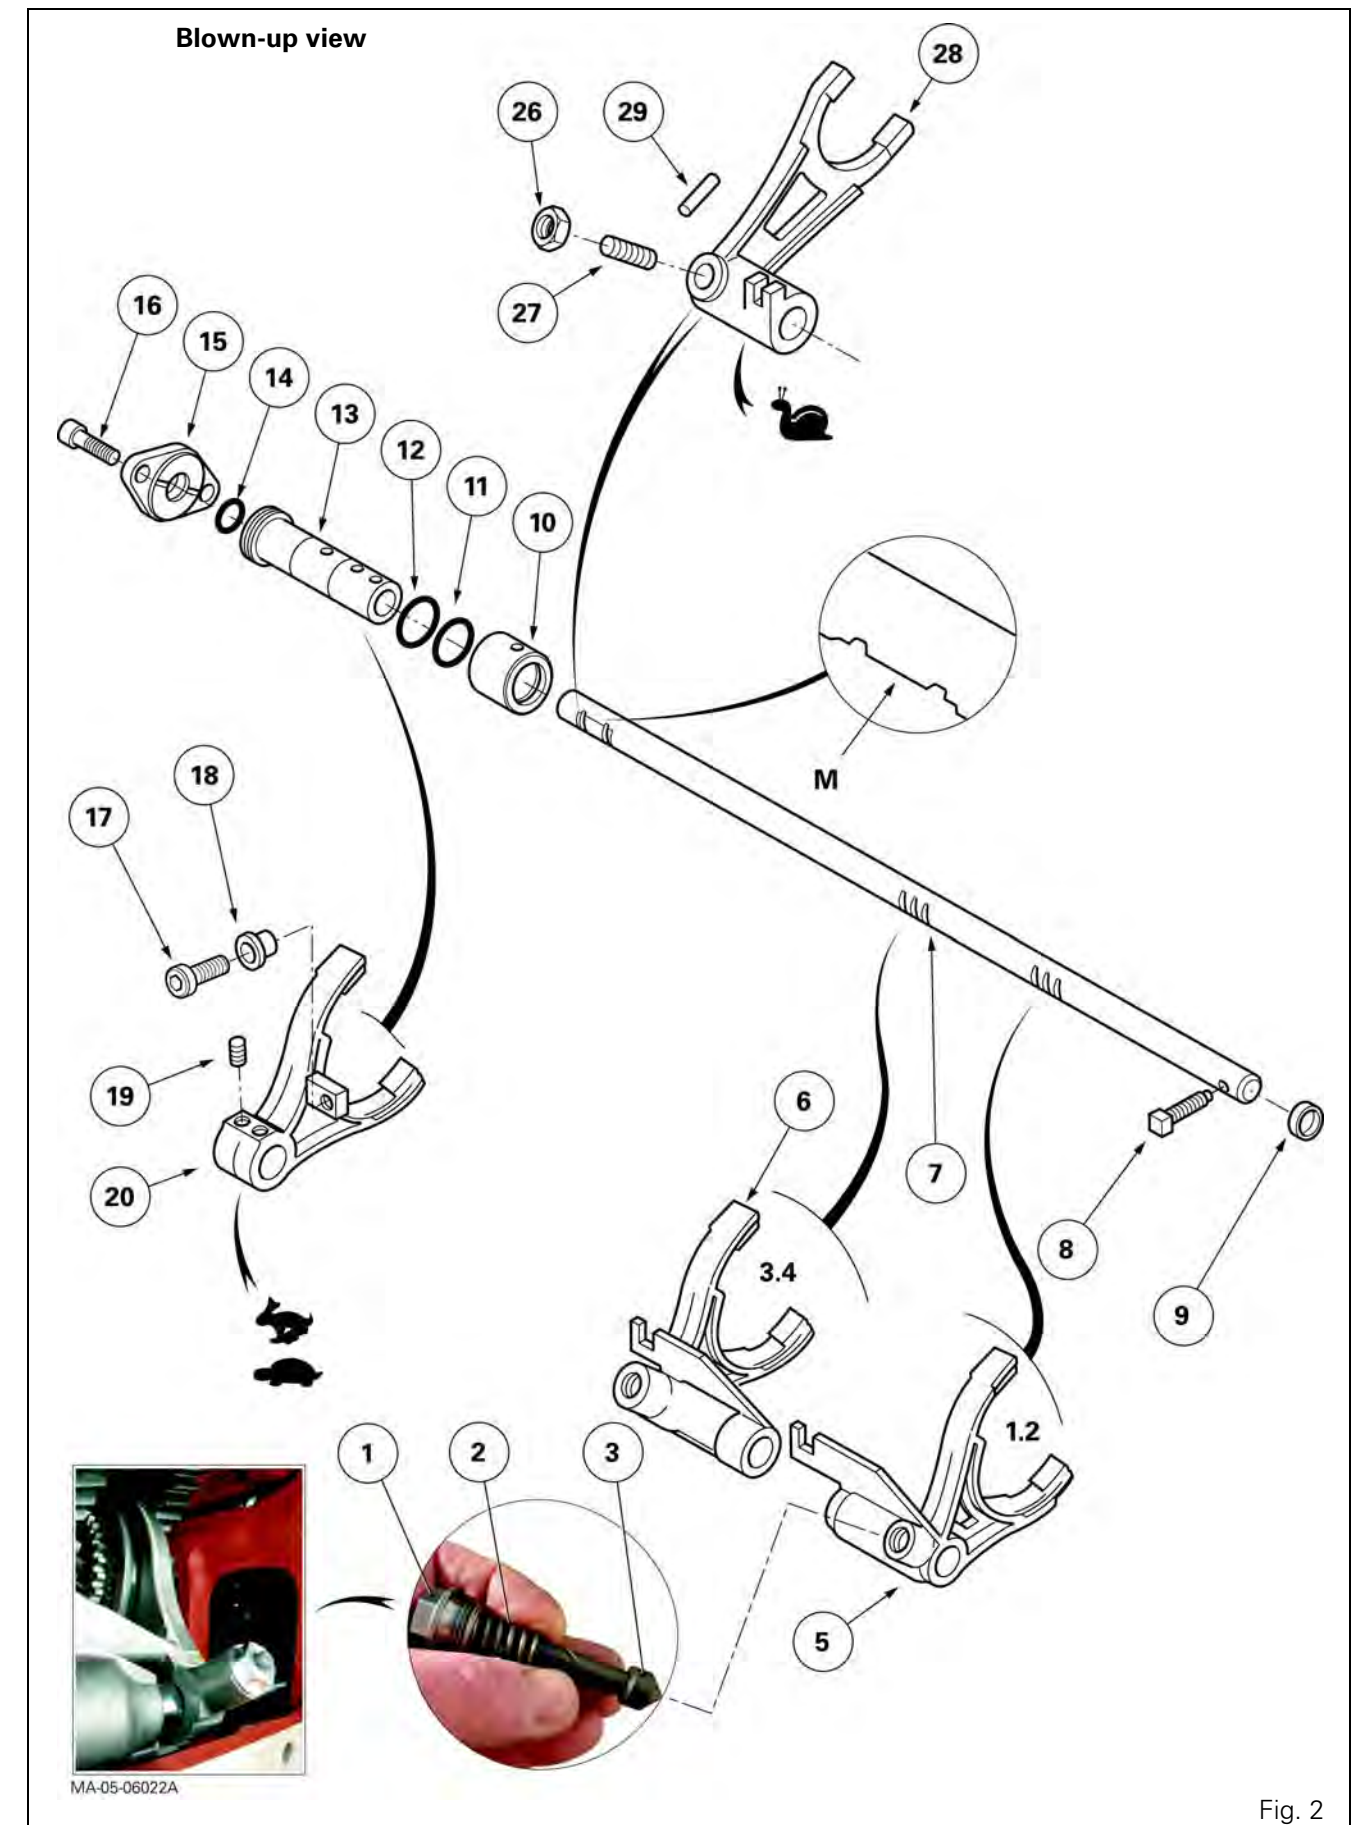

Fig. 2
Parts list (Fig. 2)
3. Remove the selector cover plate (see chapter 5). Take out the plugs (1), the springs (2) and the detent plungers (3) to release the selector rail (Fig. 2).